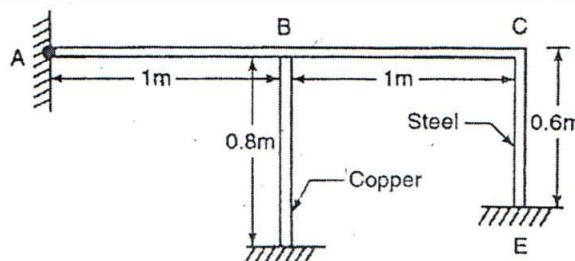

Figure Q2b
b) A rigid member ABC pinned at end A is connected by two bars; a steel bar CE and a copper bar BD as shown in figure Q2b. The setup is stress-free at 20°C . If the temperature of the whole assembly is raised by 40°C , find the stresses induced in steel and copper bars. 12